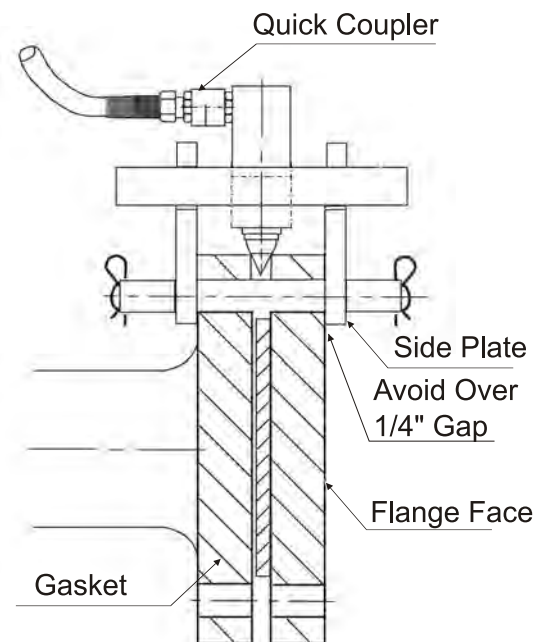

Figure 2.
- 3.2. Rotate the wedge clockwise allowing the tapered sides to be forced between the flange faces. If the wedge cannot be rotated sufficiently in a clockwise direction for proper alignment, then rotate it counter-clockwise just enough to align it with the flange. See Figure 2.